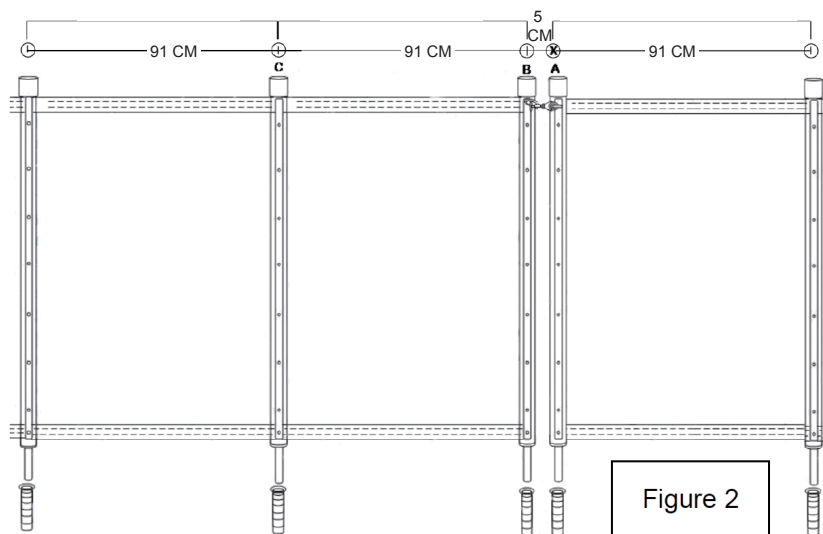

Figure 2
4. Continue around the entire pool, drill all holes using the drilling template for guidance. Place the "B" hole marked on the drilling template over the last hole drilled. (see figure 2), then drill through the "C" hole. Repeat this step for every 3.7 M (or at the end of each fence unit), you must also drill through the "A" hole to accommodate the pole from the new fence unit.